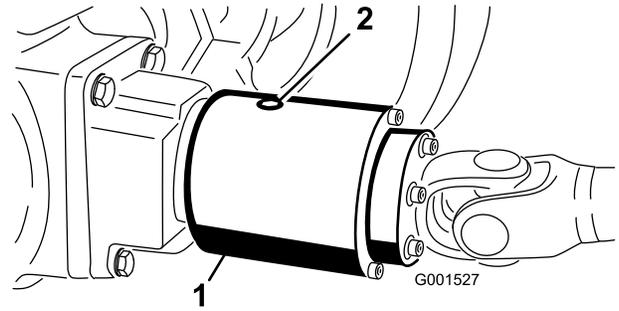

Figure 63
3. Rotate the clutch so that the check plug is positioned downward (Figure 63).